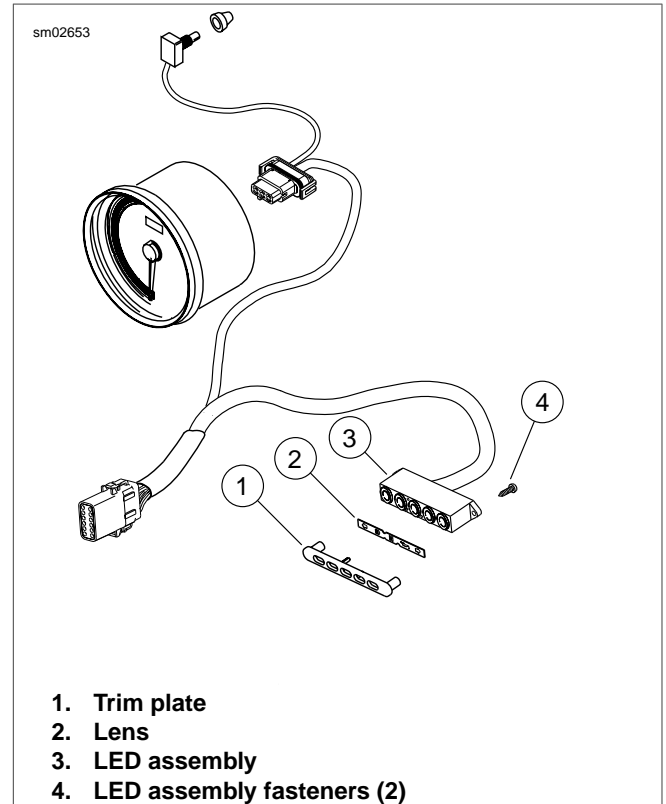

Figure 7-64. Indicator Lamps: FXD
1. See Figure 7-64. Remove LED assembly fasteners (4) from LED assembly (3).
1. See Figure 7-64. Install LED assembly (3) into speedometer bracket.
2. Install LED assembly fasteners (4) into LED assembly. Tighten fasteners (1) to 18-24 **in-lbs** (2.0-2.7 Nm).